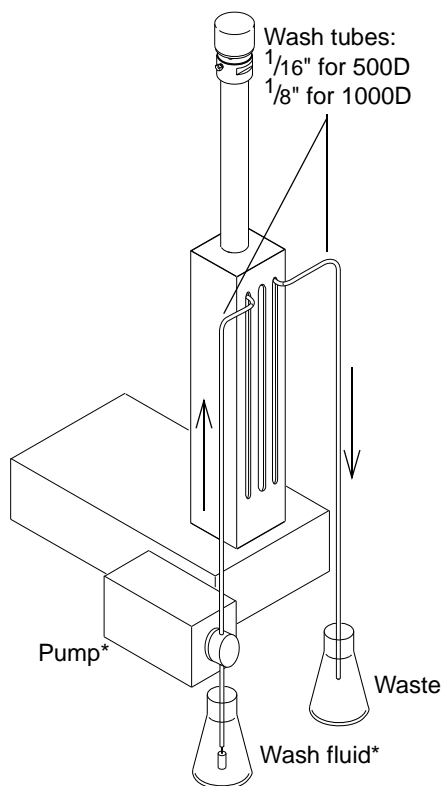

Figure 2: Wash fluid connections *user-supplied
- Inlet and Waste containers (see Figure 2)